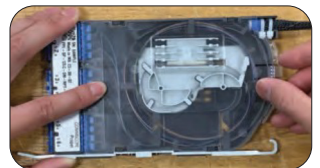

Figure 18
19. Lay the cover flat on the base and ensure all the tabs on the side of the cover and bases are lined up. With one hand holding the cassette base, push cover forward with other hand to engage tabs. Double check the rear tab is also engaged to prevent the cover from sliding off. (Figure 18)